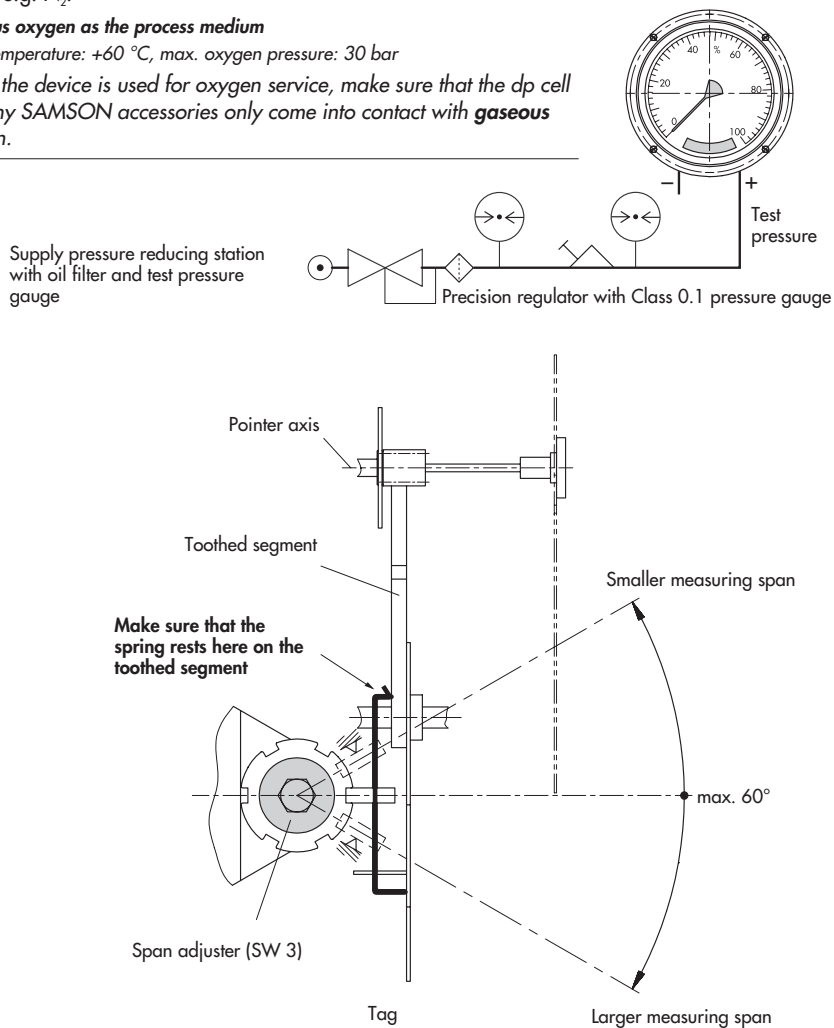

Fig. 7 · Test arrangement and modifying the measuring range
► For best results, perform adjustment on the test bench (Fig. 7, top).
*You are adjusting a moving part. Therefore, adjust carefully and do not use any force. Do not apply any pressure with the screwdriver in axial direction. If the spring is mispositioned while adjusting the measuring range and is now located on the tag instead of the toothed segment, the pointer goes beyond the 100 % scale range and not to 0 % when there is an input pressure of 0 mbar. In this case, reposition the spring as shown in Fig. 7.*